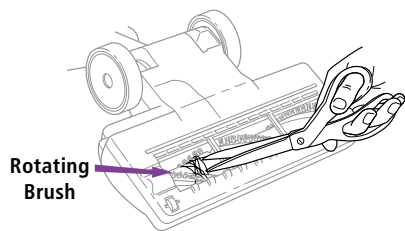

Fig. 31
- 2 Inspect the opening underneath and the rotating brush. If a build-up of debris is present, remove it. Carefully cut anything wound around the rotating brush with scissors. Avoid damaging or cutting the bristles. (Fig. 31)